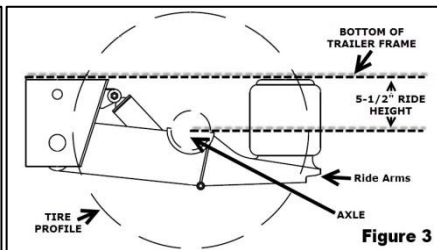

Figure 3
3. Adjust the front axle ride height with the Vertical Link (symbol 4 in Figure 2) to measure 5-1/2" (Figure 3) from the bottom trailer frame to the centerline of the axle.